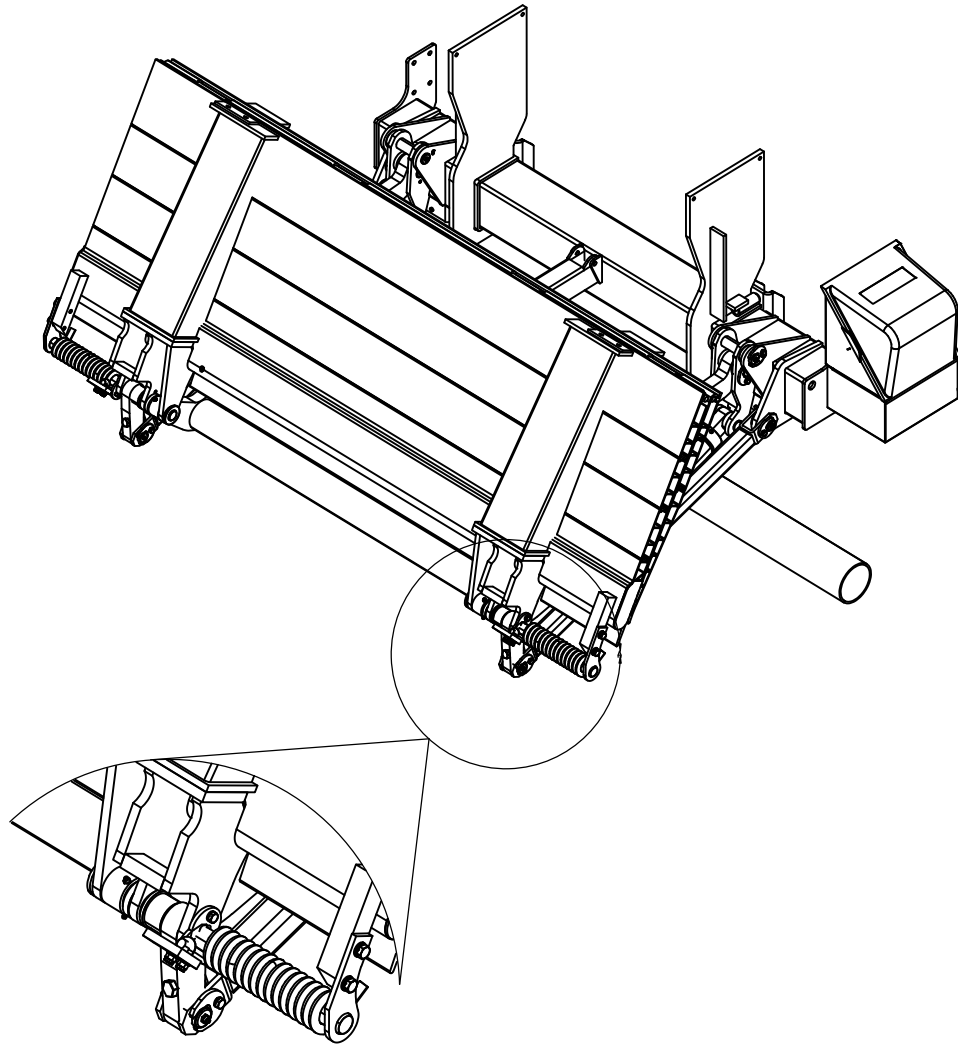

Figure 32: Platform Adjustment.
1. **Position** the liftgate so that the lift arms are touching the ground, but the platform is still folded (Figure 32).